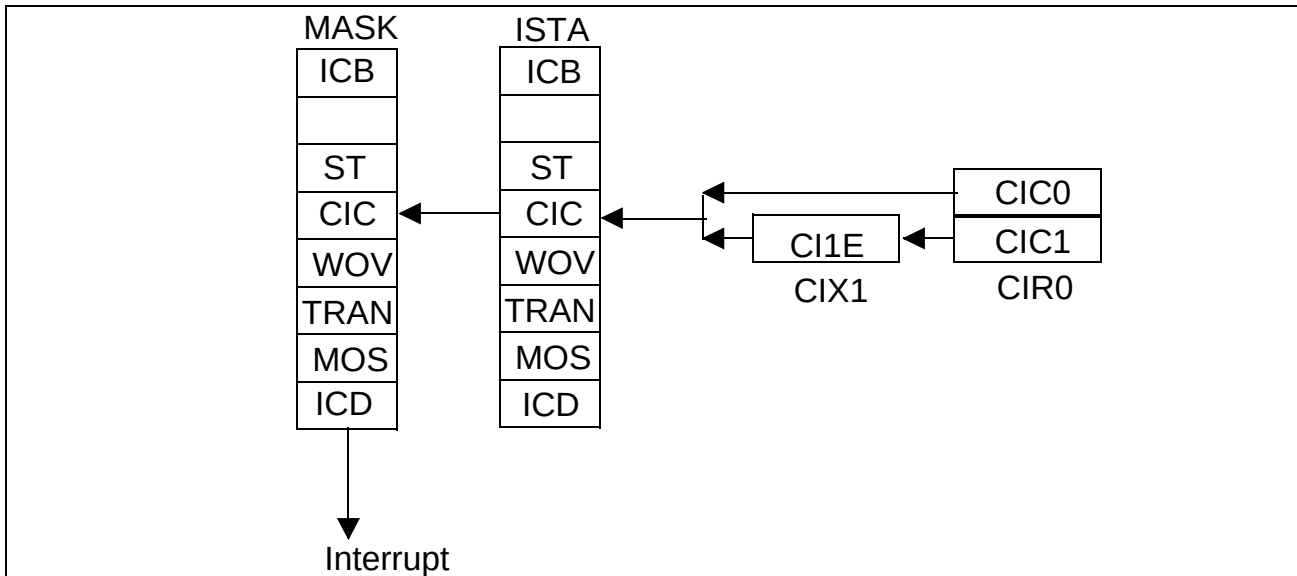

**Figure 64** CIC Interrupt Structure
**Figure 64** shows the CIC interrupt structure.